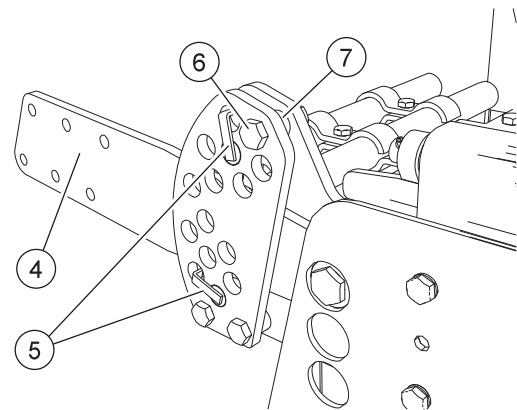

FIG. 11
- Loosen the bolts (6, “Fig. 11”). Remove the spacer (7). Remove the split pin and the upper pin (5). Lower the arm (4) until it rests onto the lower pin (5). Insert the upper pin (5) into the first free hole on the arm. Tighten pins with the split pin.